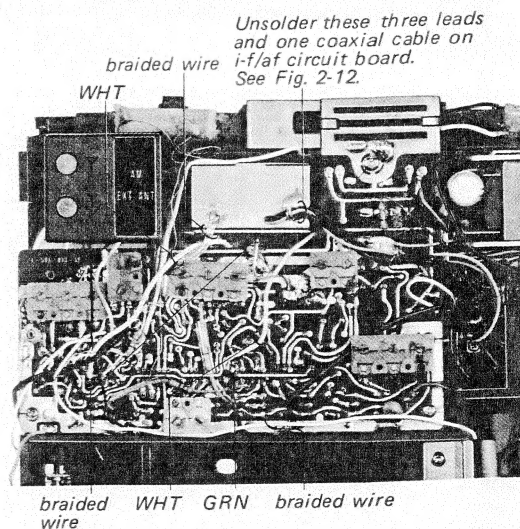

Fig. 2-11. Fm front end block removal
2. Unsolder the three braided wires and the three leads (WHT, YEL, GRN) in Fig. 2-11.